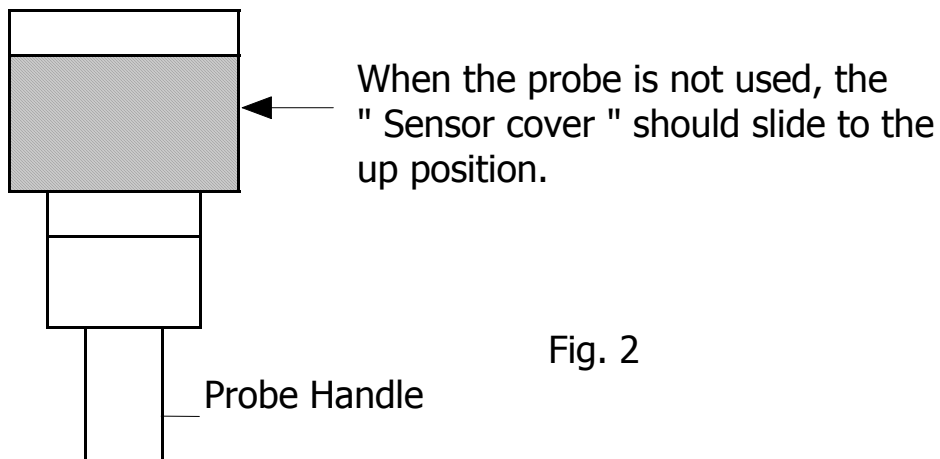

Fig. 2
- a. When slide the sensor cover of " Sensing Head " ( 3-20, Fig. 1 ) to the up position to let the air velocity sensor isolated from the environment ( refer Fig. 2 ).***